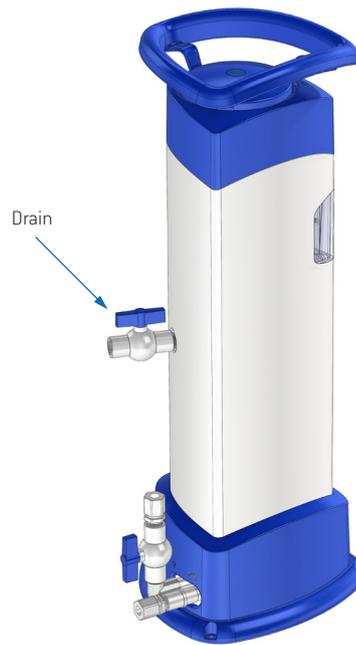

Figure 14
1. Prior to removing the pressure cap, open the Ball Valve at the drain and drain the solution into a bucket or down to a drain (figure 14). **Caution: Failure to perform this step may result in a chlorine spill and possible injury.**